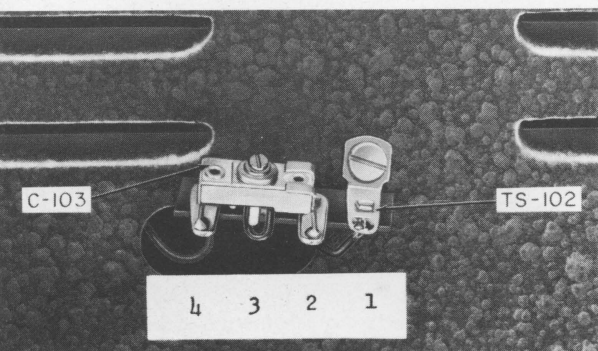

Figure 3: The four-lug terminal strip (TS-102) is mounted on the rear of the case.
(7) Remove the knock-out plate on the rear of the WO-33A case.
(8) Locate and mark a point on the rear of the case  $2\frac{3}{8}$ " from the top, and  $3\frac{1}{4}$ " from either side (center). At this point, drill a  $\frac{5}{32}$ " hole for inserting the TS-102 mounting screw.
(9) Mount the four-lug terminal strip (TS-102) on the rear of the case, as shown in Figure 3. Use the #6-32 screw, with the #6 lockwasher and #6 hex nut on the inside of the case.
(10) Replace the instrument in the case, passing the two wires connected to TS-101 through the knock-out hole.
(11) Cut the two wires so that they extend approximately 2 inches outside the case.
(12) Mount the 4- to 40- $\mu\mu\text{f}$  trimmer capacitor (C-103) on the terminal strip TS-102 between lugs #2 and #4, as shown in Figure 3. (The grounded lug is designated as lug #1.)
(13) Connect the grounded hookup wire